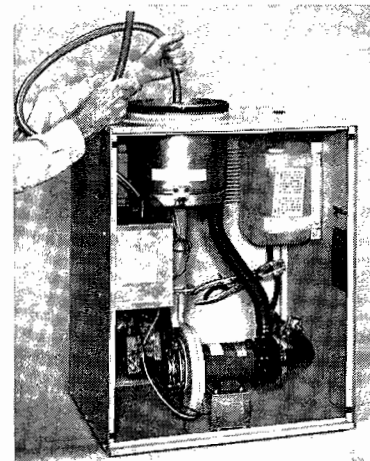

FIGURE 33
PROCEDURE: (1) Pinch off rubber vent tube. (2) Remove tube from top of module and replace plug. (3) Keep vent tube and charging hose pinched off. (4) Lower charging bucket below level of charging tee. (5) Remove charging hose and replace rubber plug. (Fig. 33)